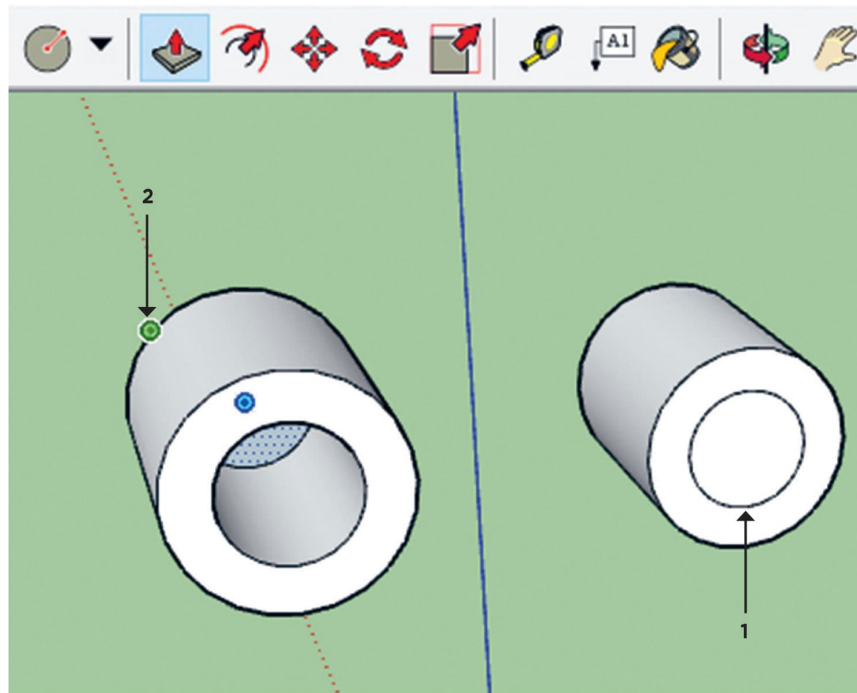

FIG. 2: Using the **Push/Pull** tool to draw a circular hole in SketchUp.
2. We now draw another circle on the front face of the cylinder. The size of the second circle is slightly smaller than that of the cylinder 1; this will determine the size of the hole in the napkin ring. Arrow 1 in fig. 2 shows the circle for the hole. Arrow 2 shows it being pushed back into the cylinder to the bottom edge of the cylinder. Note that if you do not push it to the edge, the material will get pushed in the opposite direction to form another cylinder.